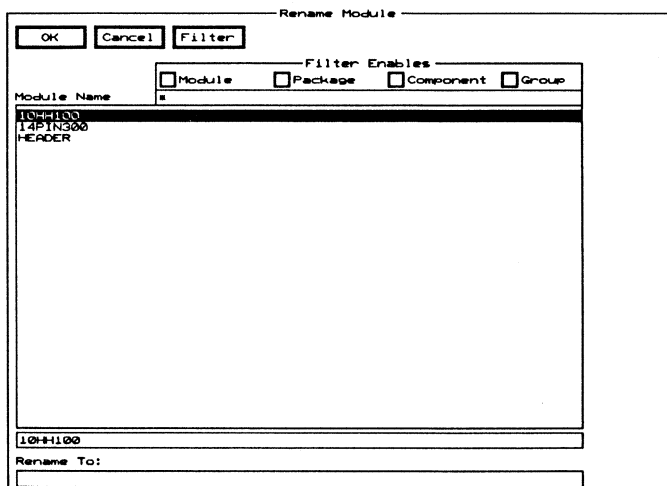

Figure 5-5. The *Rename Module* dialog box.
3. Select **10HH100** in the **Module Name** list box, then select **Rename**. The **Rename Module** dialog box displays (figure 5-5).